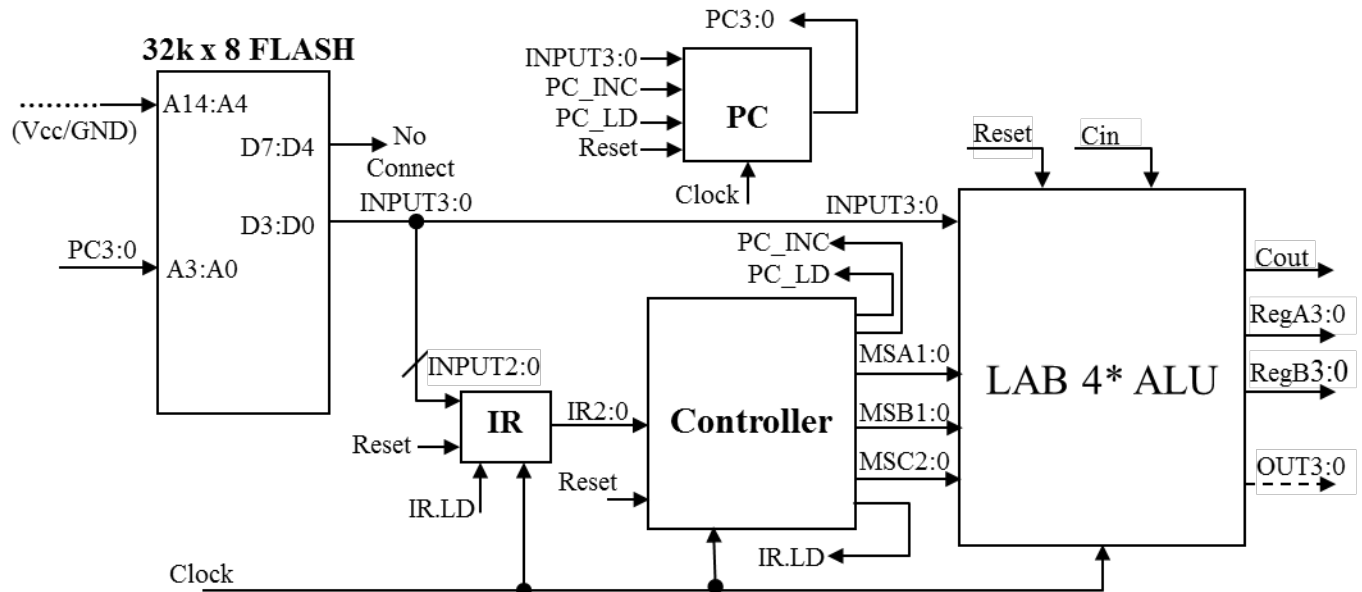

Figure 3. Block diagram of system hardware.
- As shown in Figure 3, a 32k × 8 EEPROM (or Flash) is added. The instructions and data will be stored in this EEPROM **starting in location \$3E70**. (See Pre-Lab question 1.)
- A program counter (PC) is added. PC is a 4-bit up-counter with a synchronous count enable signal (PC_INC). If PC_INC is TRUE, the counter will increment by 1 at the next active clock transition. If PC_INC is FALSE, the counter holds its current value. The count after 1111 is 0000. Another synchronous signal, PC_LD, is used to load the counter from the INPUT bus. The 74'161 (with asynchronous clear) is ideally suited to function as a 4-bit PC.